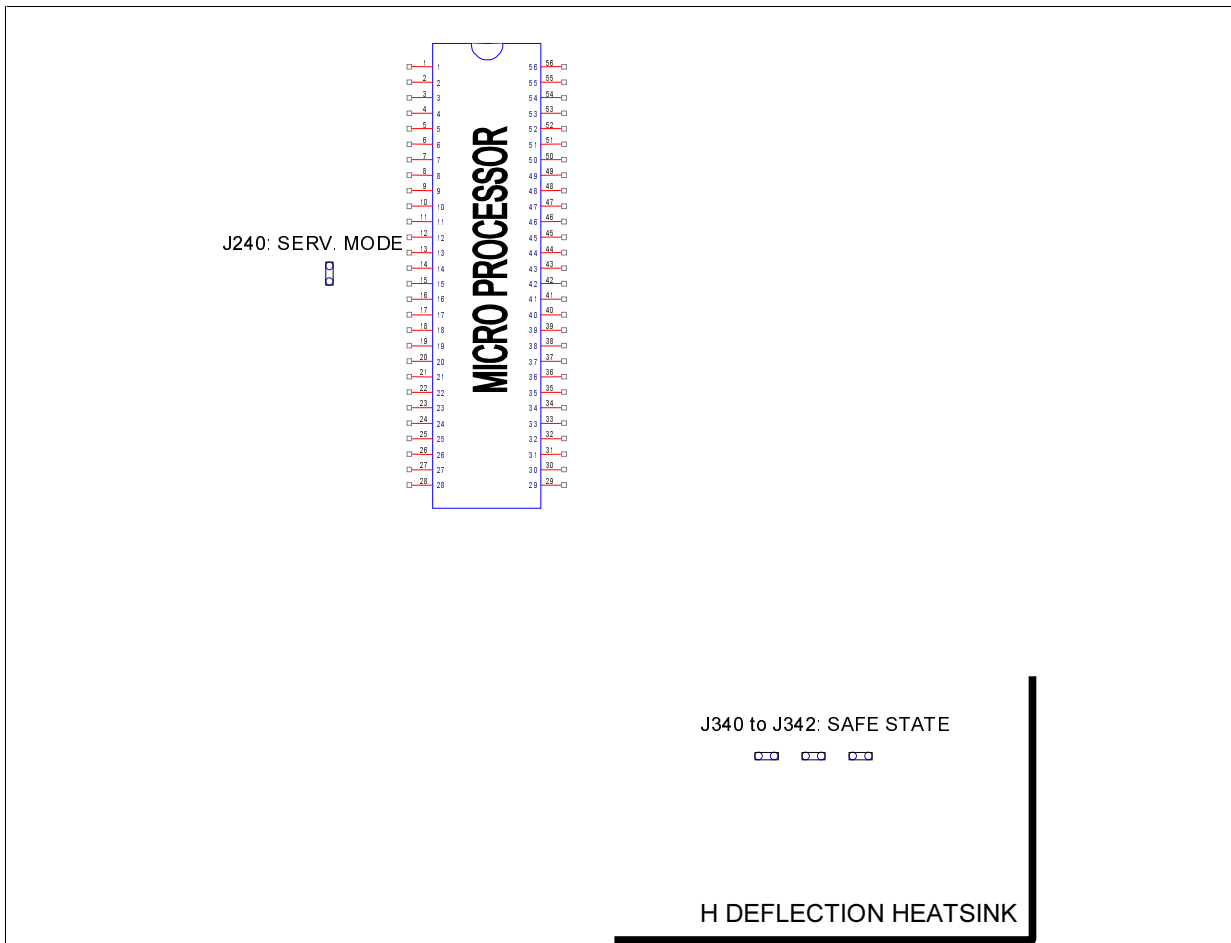

Figure 8-1 PCB overview of jumper settings
Make sure that the jumpers are in the positions as shown in Figure 8-1 PCB overview of jumper settings.
1. Put in the jumpers on the main board according Figure 8-1 PCB overview of jumper settings.